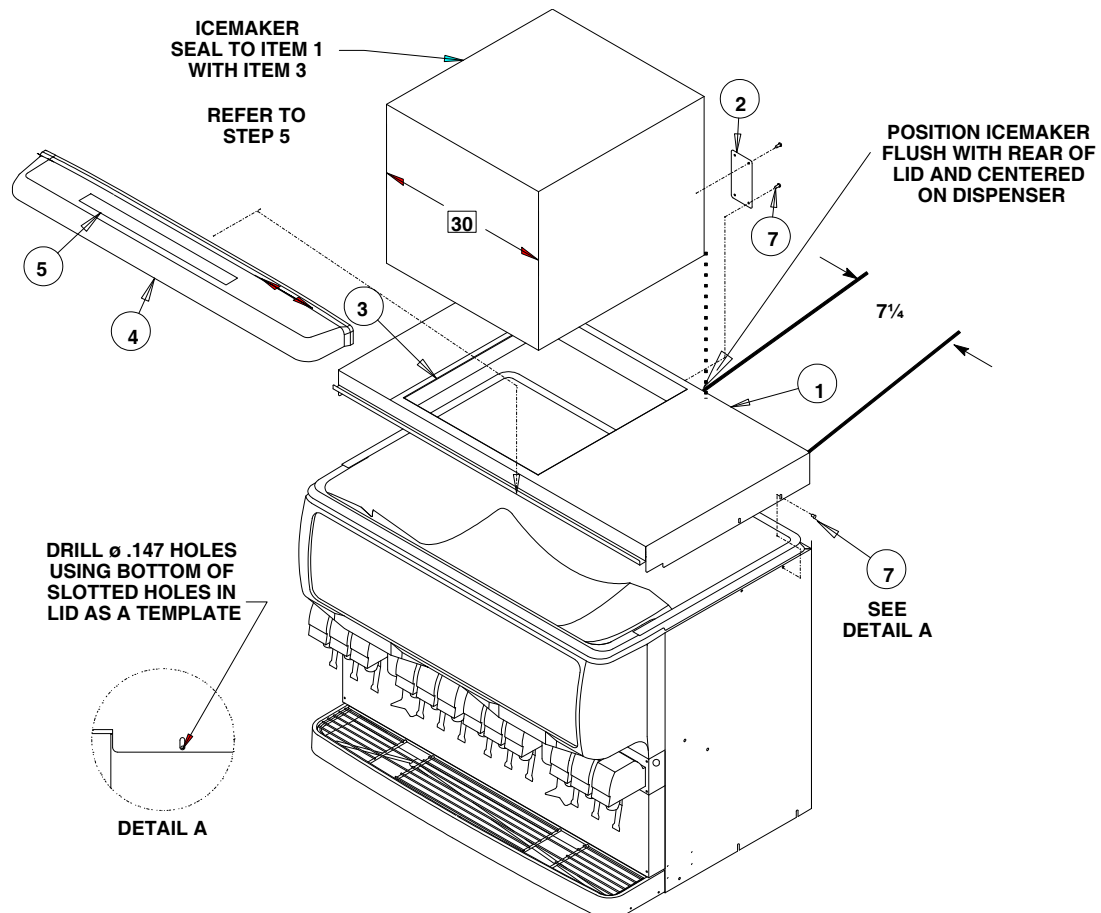

Figure 1. Dispenser
1. Remove the top plastic bin covers (2) from the dispenser.
2. Place the ice maker adapter lid assembly (item 1) on top of the dispenser and position it flush with the rear and sides of the dispenser as shown in Figure 1.
4. Using the slotted holes in the lid as a template, drill (4) 0.147" diameter holes (#26 drill) at the bottom of the slots (see Figure 1 Detail A). BE CAREFULLY NOT TO DRILL INTO THE ICE STORAGE BIN. Secure the lid to the dispenser with (4) #10 sheet metal screws.
5. Seal the ice maker to the dispenser lid as follows (see Figure 1).
- B. Set the ice maker onto the lid and position it as shown in Figure 1.
8. Locate the cleaning caution label (item 5) on the manual ice fill cover (item 4) as shown in Figure 1. Place the manual fill cover in position over the flange on the lid assembly and the front access hopper opening.